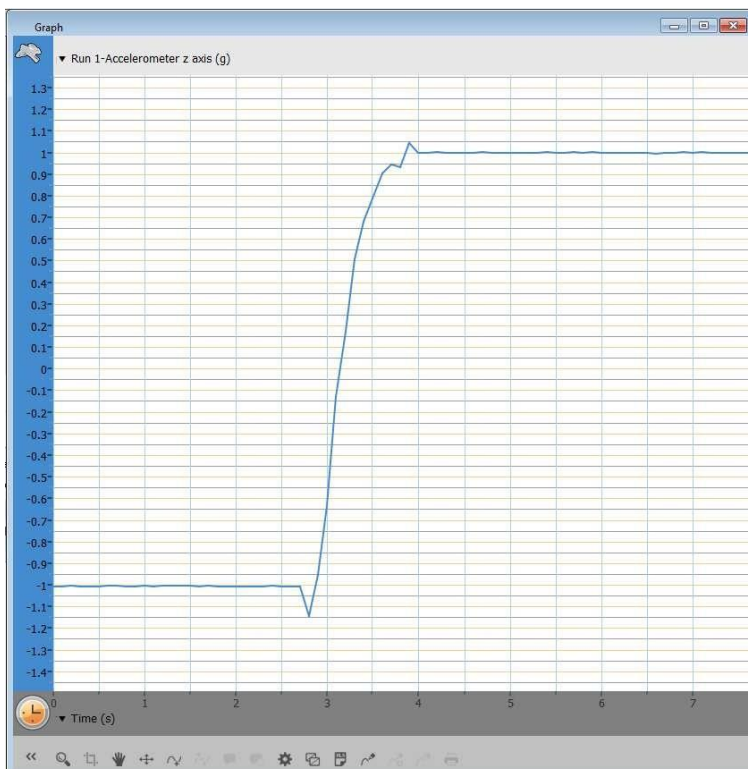

Figure 1: A measurement of Acceleration of Gravity at Z-axis
6. Your graph should display +1 g and -1 g. (See Figure 1)